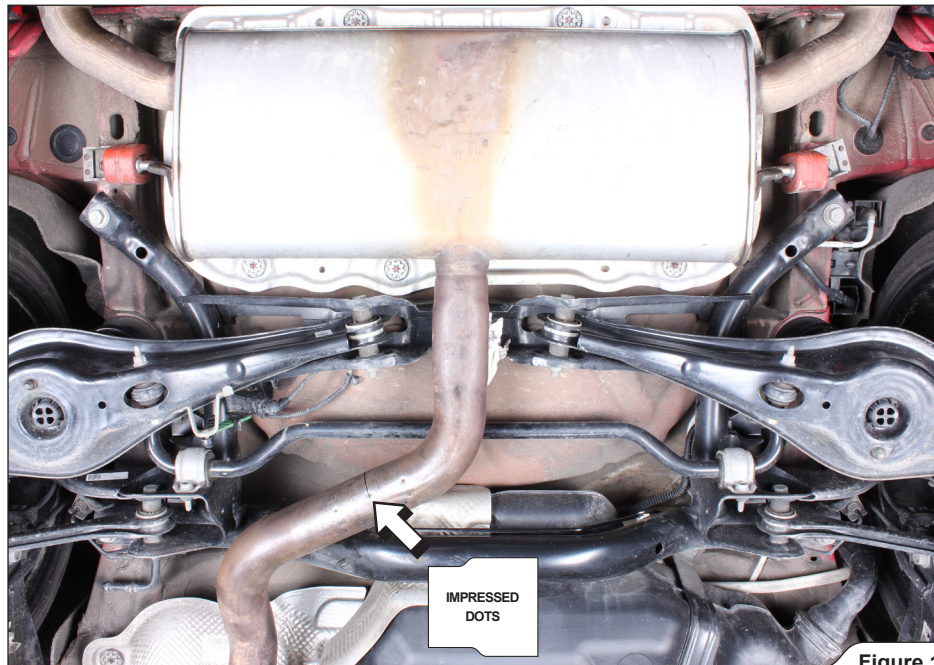

Figure 1
1. Mark the stock muffler's inlet pipe exactly at the middle set of the impressed dots, as shown and cut the pipe with pipe cutting tool (**Figure 1, 2**).